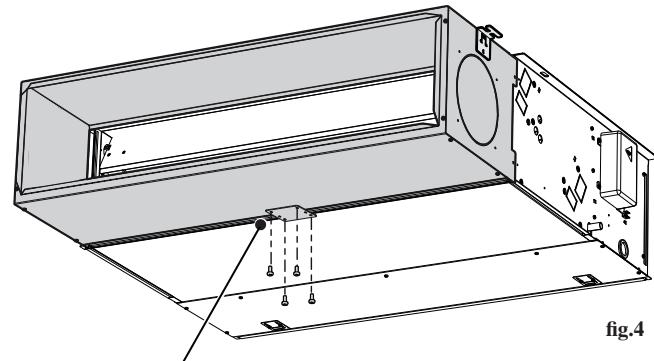

fig.4
- In the RPM670V size, the external support bracket must be installed with the 4 screws provided (fig.4).